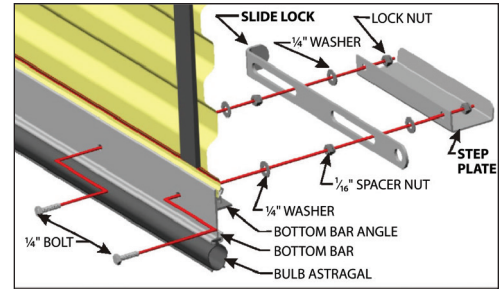

Figure 10 Slide Bolt Lock and Lift Clips
- B. Install the slide lock (**Figure 10**).
- C. Install the step plates (**Figure 10**).